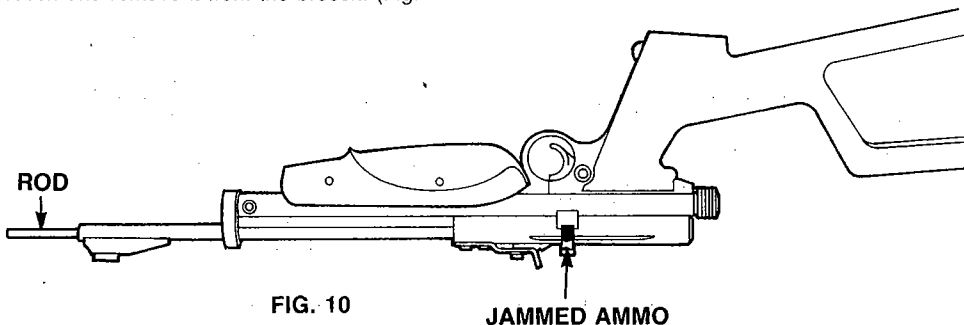

FIG. 10
- D. Put the pistol "On Safe", open the pellet loader, turn the pistol upside down, insert a rod or straightened clothes hanger into the barrel, push the jammed pellet into the breech and remove it from the breech. (Fig. 10)